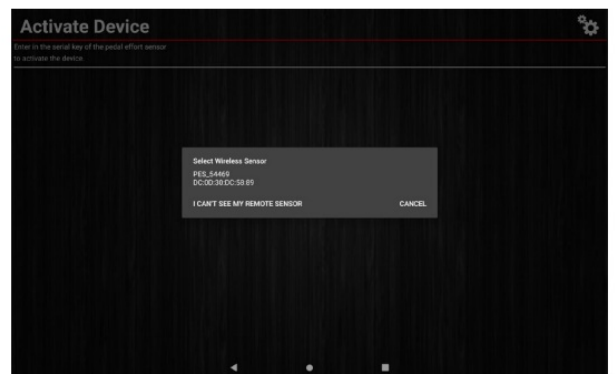

Figure 47
3. The Workshop Pro will connect to the Pedal Effort Sensor (ensure the device is ready for connection). (Figure 47)